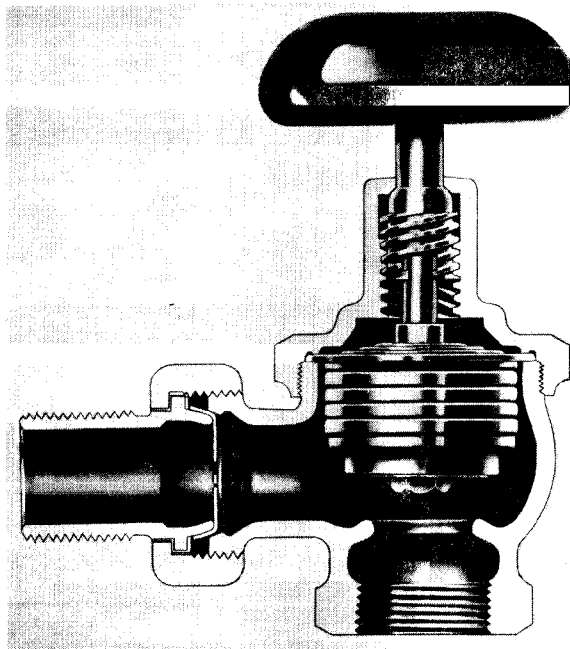
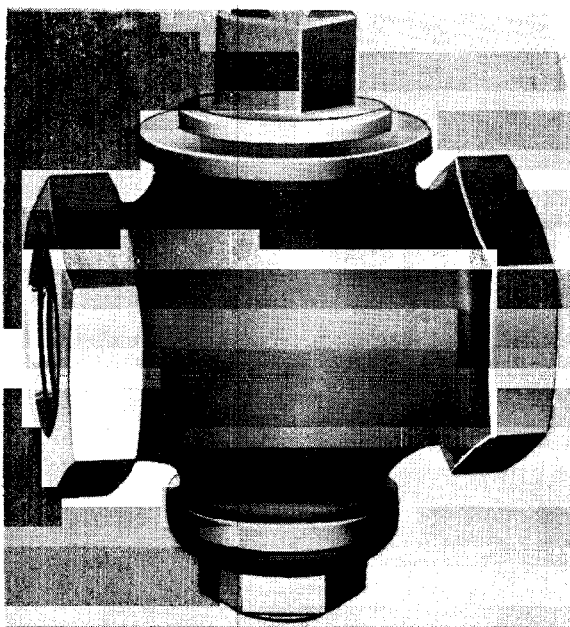
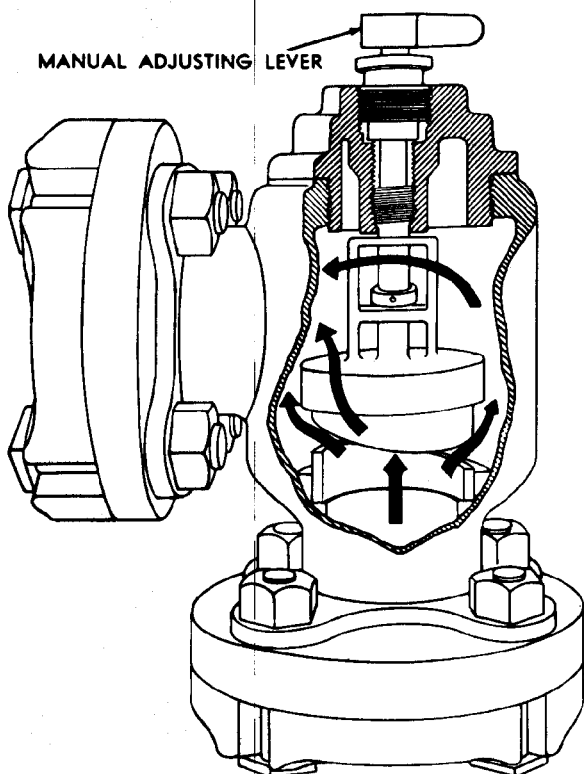

Figure 4-6. Radiator cutoff valve.
Figure 4-7. Square-head balancing cock.
Figure 4-8. Flow control valve (angle type).
- (1) Turn off or regulate the flow of water to individual radiators.
- (2) Balance the hot water distribution through the system.
- (3) Prevent water flow in forced-circulation systems when pump is not in operation.
- (4) Add water to fill the system either manually or automatically.
b. Description. Radiator cutoff valves (fig. 4-6) are required on only the inlet side of hot water radiators. These valves frequently have a small hole in the seat to permit some circulation when the valve is closed and to prevent freezing of the radiators in cold weather. The balancing of water flow to individual radiators or to sections of the system can be accomplished by use of square-head balancing cocks (fig. 4-7). These cocks require a wrench for adjustment and thus prohibit tampering by unauthorized personnel. A typical flow control or check valve is shown in figure 4-8. These valves are used to prevent gravity circulation in forced-circulation systems when heat is not required. Some of them can be opened or closed manually by an external lever. Be careful in their selection and installation to make certain that they open in the direction of water flow and that they are installed in the position, either horizontal or vertical, in which they were designed to operate. Water supply lines to manually filled systems, which include all systems with open expansion tanks, are equipped with a hand valve to turn off the water supply when all radiators are full. On closed systems this valve may be replaced by an adjustable pressure-reducing valve to automatically keep the system filled with water. These valves are selected and adjusted to maintain sufficient pressure to force water to the highest radiator.